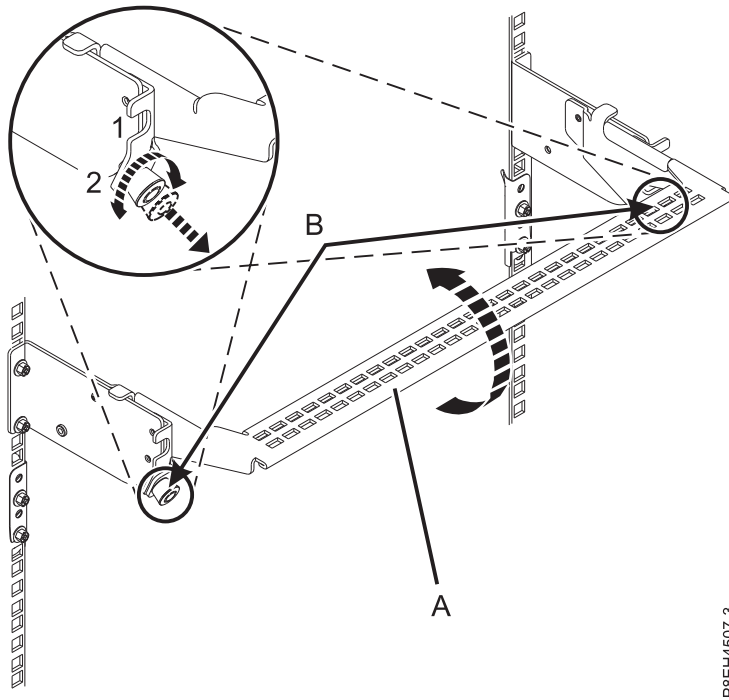

Figure 97. Placing the cable management bracket in the service position
9. At the rear of the EMX0 PCIe3 expansion drawer, put the cable management bracket in the service position. See Figure 97 on page 95.